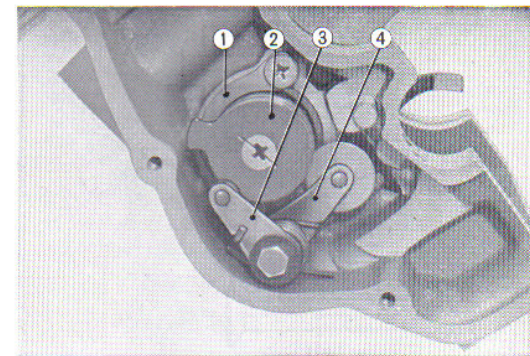

Fig. 3.115 Removing the gear shift drum
5. Remove the shift fork guide pin clip and then pull out the guide pin. (Fig. 3.115)